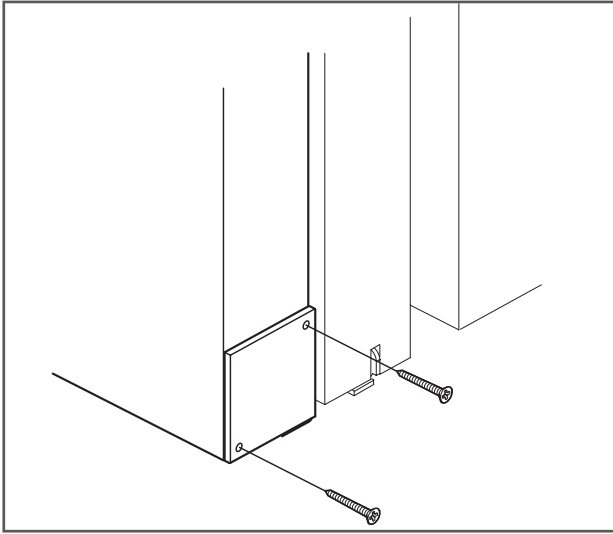

Figure 12
23. Install plate with two flat head phillips screws (provided) and a drill with a phillips bit (Figure 12).